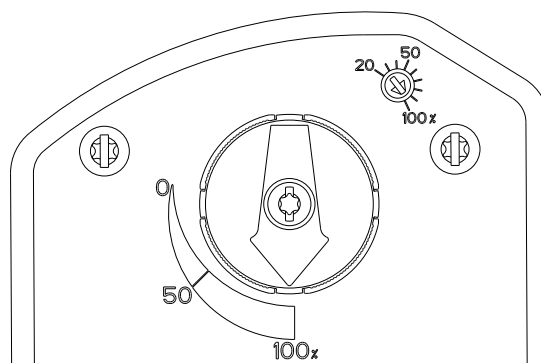

Figure 4: Switch Trip Point Settings
The switch is accessible from both A and B sides of the actuator as illustrated in Figure 4. Actuators are delivered in Direct Acting (DA), DC 0 to 10 V input signal mode.
For the most accurate switch positioning, see Figure 4 and use the method in the following example.